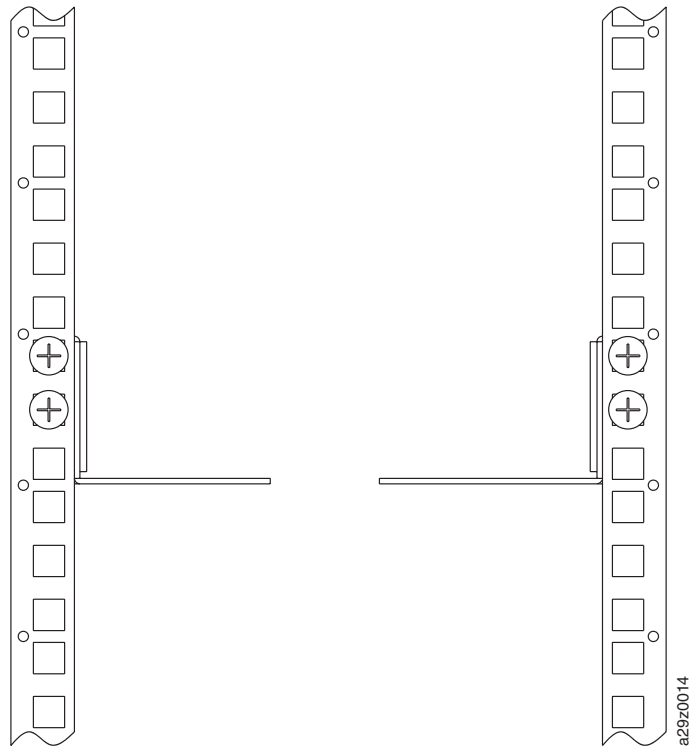

Figure 3-5. Rack mount screw locations for front vertical rails
2. Determine the location in your rack for your library to be installed and, using a pencil, mark the location on the front vertical rails (Figure 3-5) and rear vertical rails (Figure 3-6) in your rack.
6. Install the rail assemblies into the rack (Figure 3-10). Ensure the three holes in the front of the unit align with the 1U space marked on the vertical rails in Step 2. Secure the rails to the rack using four flat-head screws **9** on each side of the rack. Use both of the two screw locations on the rear of the rack rail (Figure 3-6). Use the **top** and **middle** screw locations on the front of the rack rail (Figure 3-5).